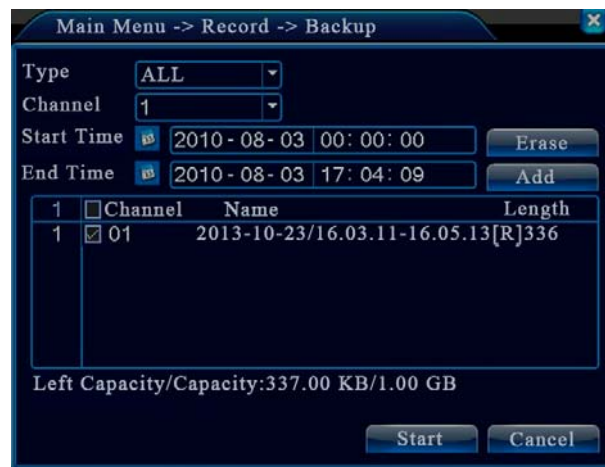

Figure 4.3 Backup Record
**Backup:** Click Backup to display backup dialog box as shown in Figure 4.3 and according to type, channel and time, select backup record files.